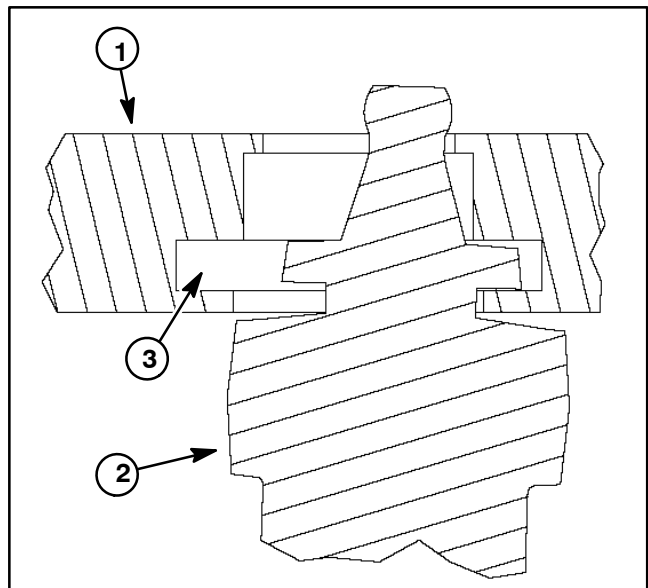

Figure 39
18. Place a body seal (item 3) into the groove in each face of the manifold (item 10).
B. With the side of the manifold with the largest holes down, align the notch in the manifold with the notch in the rotor. Lower the manifold toward the rotor and engage the disk shaped portion of the drive link into the manifold groove (Fig. 39).